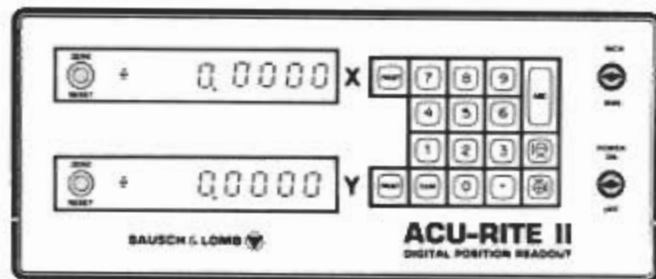

Figure 3-5. Console Status: Zero Reset
- Push the ZERO RESET button for each axis to zero the absolute mode. Plus zeros will be displayed (see Figure 3-5).
- Push the ZERO RESET button for each axis again to zero the incremental mode, and plus zeros will be displayed (see Figure 3-5).